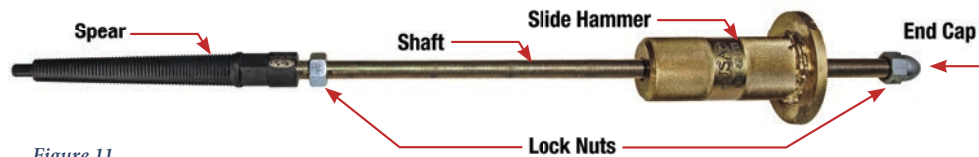

Figure 11
- USA Industries supplies a manual *Plug Removal Tool* assembly for extracting *Plugs*. There are multiple sizes of *Spears* to accommodate any size *Plug* along with a threaded insert to capture the *Pin*. To determine the correct *Spear* size, a sizing chart is shown in *Figure 10*. The *Plug Removal Tool* assembly comes complete with a threaded *Shaft*, two *Lock Nuts*, *End Cap*, *Slide Hammer* and *Spear*. A full assembly of the *Plug Removal Tool* is shown in *Figure 11*.